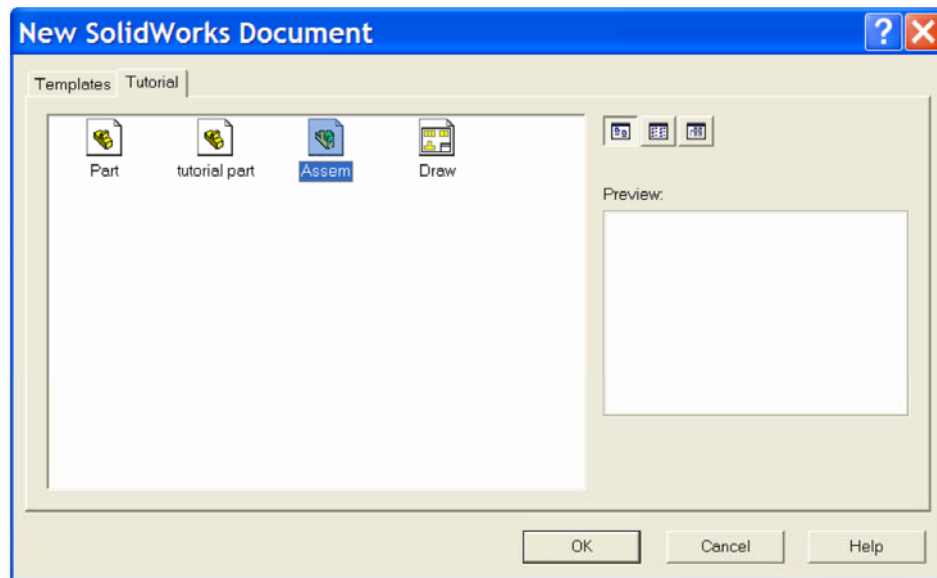

Figure 1
2. From 'New'  open an Assembly File  and select '**Tile Horizontally**'. See Figures 1 & 2.